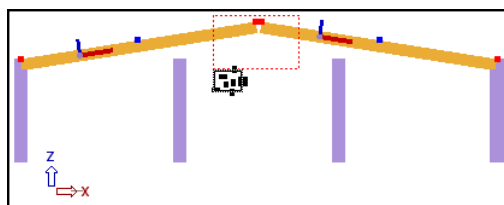

Figure 60: Selection of the beams
1. Click the two beams to select them (Figure 60).